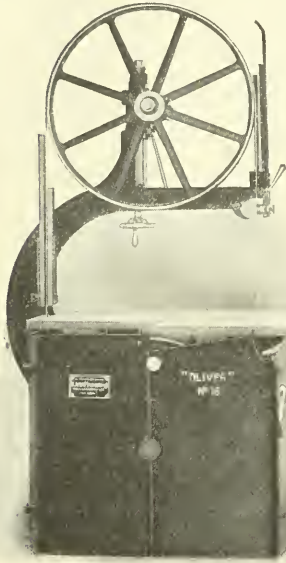
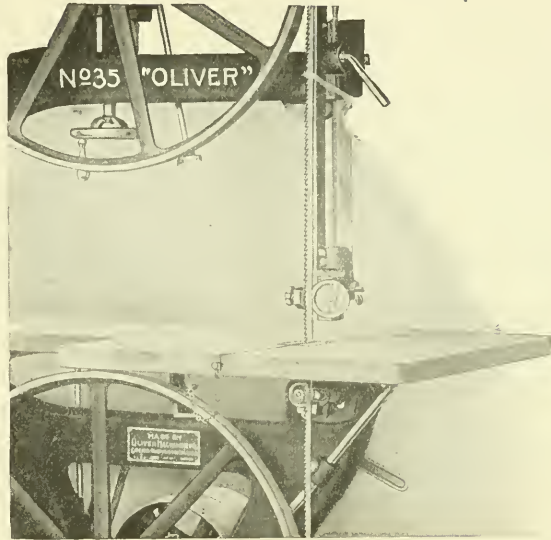
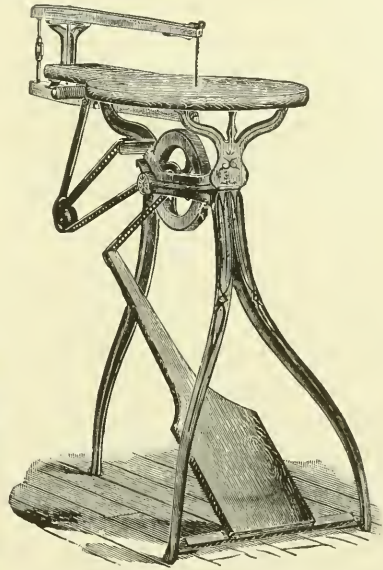
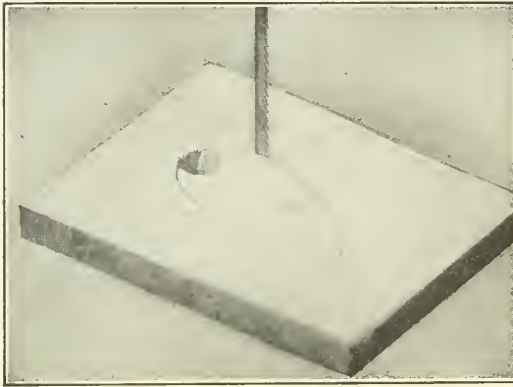

Fig. 265
Fig. 266
Fig. 272
Fig. 273
92. The Band-saw.—As this saw (Fig. 265) cuts continuously while the jig-saw (Fig. 272) cuts only on the down-stroke, the advantage of the band-saw in saving time is obvious. Its motion is also smoother, but it is harder to take care of. The correct degree of tightness for the saw can be told by testing with the hand below the upper wheel, before the saw is started. This cannot be learned from a book, but it must be right. The saw must be fairly tight, but not overstrained. It should be loose enough that when the hand is applied near the guide (Fig. 266) the saw can be freely pulled a lit-
93. The Jig-saw is now practically superseded by the band-saw except for "inside" or "coring" work. It is, however, simpler, safer, easier to use and to keep in order than the circular-saw or even the band-saw, and is therefore for some reasons the best machine to begin with. The foot-power jig-saw (Fig. 272) is the safest of all for younger pupils. The mechanism of the different jig- or scroll-sawing machines varies, but the principle of a narrow saw-blade running up and down is the same in all. For common work a saw-blade $\frac{1}{4}$ " wide will usually do, but for fine work and quick curves smaller sizes must be used (Figs. 268 and 270). It must be put in with the teeth pointing downward, so as to cut on the down-stroke (Fig. 273). The proper degree of tension for the blade cannot be described. The saw must not be at all slack, but tightly strained,— not however overstrained, or something may break.
be bored to admit the saw (Fig. 273). The table can be adjustable for sawing at an angle.